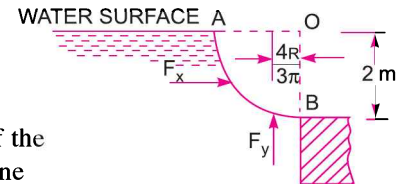

Fig. 3.30
**Problem 3.23** Fig. 3.30 shows a gate having a quadrant shape of radius 2 m. Find the resultant force due to water per metre length of the gate. Find also the angle at which the total force will act.